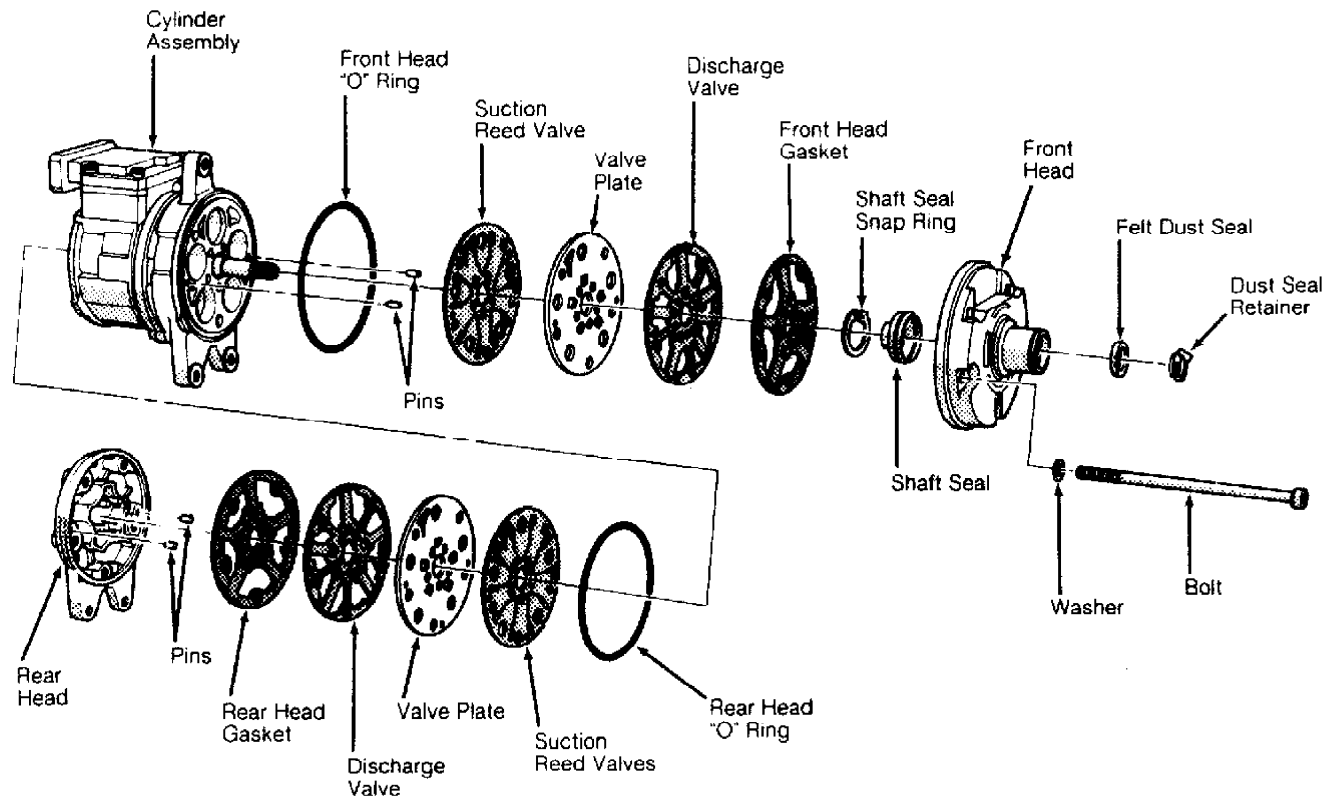

Fig. 1: Exploded View Of Compressor (Nippondenso 10PA17, 10PA17A & 10PA20 10-Cylinder)
2) Remove felt dust seal and dust seal retainer from front head. See Fig. 1. Remove shaft seal snap ring. Position front head (nose up) on cardboard placed on a flat surface. Using brass drift, press shaft seal from front head.